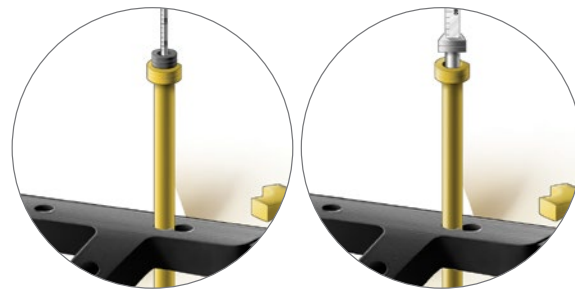

Figure 28
9. Take the length measurement from the calibrations on the drill or the Screw Depth Gauge (Figure 28).